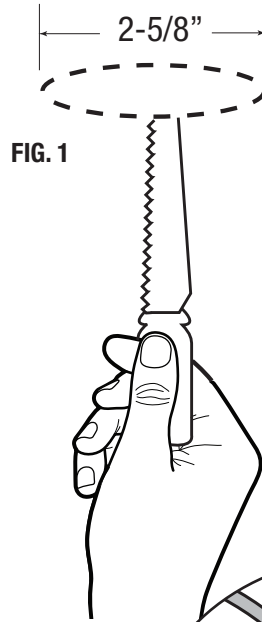

FIG. 1
**1. DRILL A 2-5/8" DIAMETER HOLE.** This will fit the aperture of the fixture housing and be large enough to enable spring clips to hold fixture tight against ceiling. (FIG. 1) For replacing other fixtures where the mounting hole is larger. Use optional trim ring included with fixture.